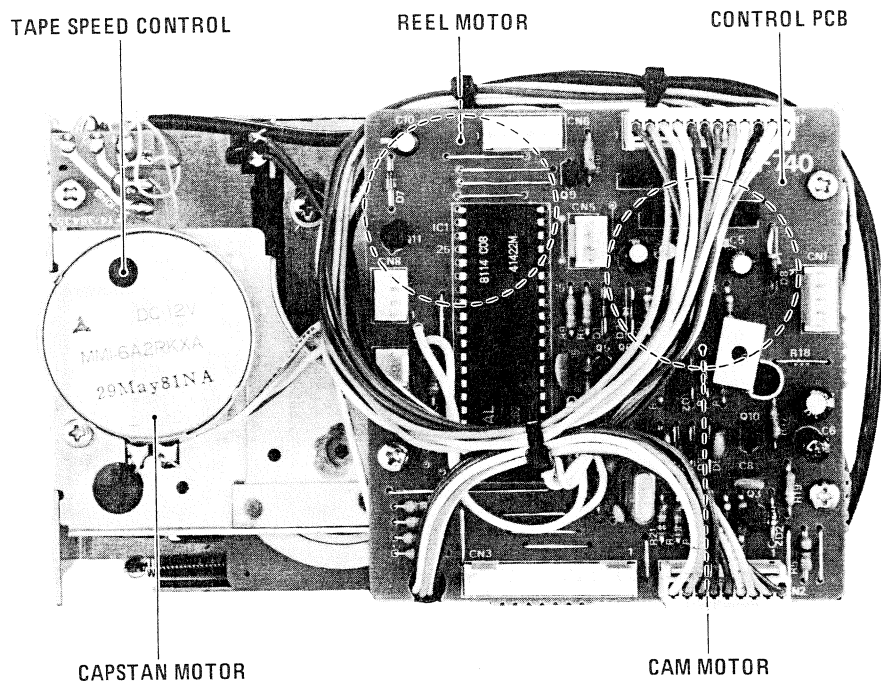

Fig. 3-4 Transport rear view
3. While the tape is playing, use a common slotted screwdriver with the handle completely insulated from the blade and adjust the control on the capstan motor (see Fig. 3-4) for a reading of  $3000 \text{ Hz} \pm 5 \text{ Hz}$  on the frequency counter.